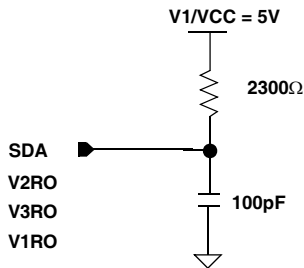

FIGURE 25. EQUIVALENT AC CIRCUIT
Output Load	See Figure 25
2. See Figure 25 for equivalent load.